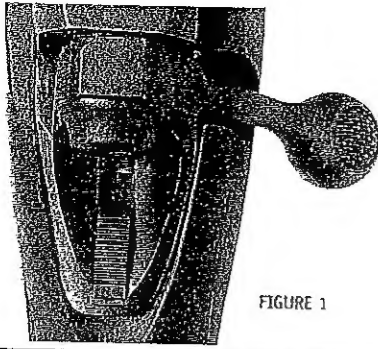

FIGURE 1
A) The safety is in the FULL SAFE position when it has been moved fully rearward, covering the red "F" (see FIGURE 1).